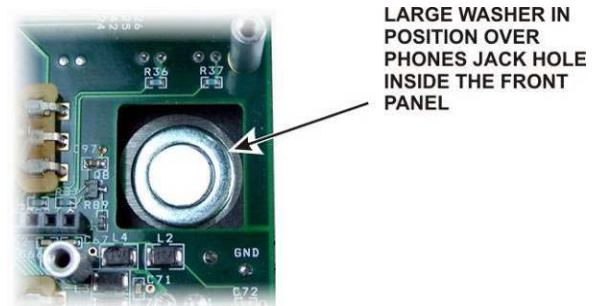

Figure 12. Phones Jack Washer.
- ☐ A large, thick spacer washer should be lying on the front panel near the hole for the phones jack (see Figure 12). This spacer fits between the phones jack and the back of the front panel board to provide a solid mechanical ground connection when the boards are in place. Remove the washer and set it aside. If it is lying on the inside of the front panel you can tip the panel so it will slide out at the end.